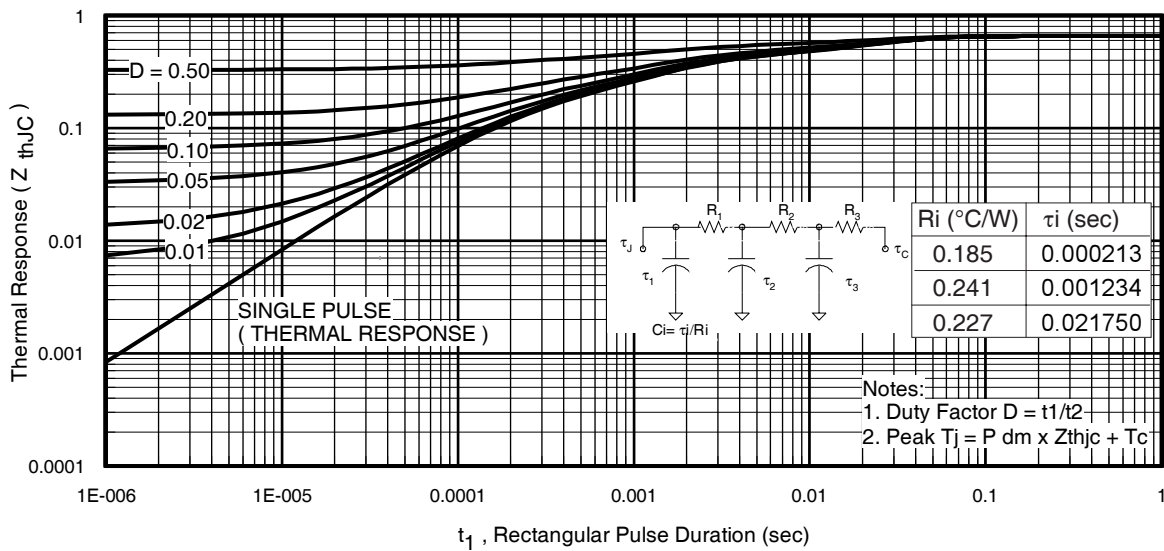
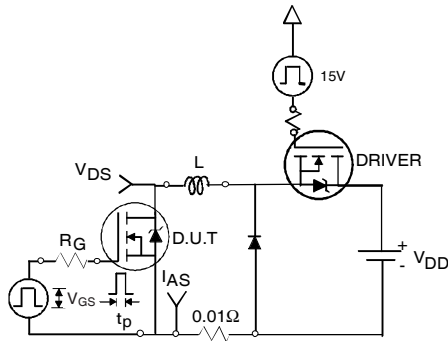

Fig 11. Maximum Effective Transient Thermal Impedance, Junction-to-Case
Fig 12a. Unclamped Inductive Test Circuit
- ① Repetitive rating; pulse width limited by max. junction temperature. (See fig. 11).
- ② Limited by T_{Jmax} , starting $T_J = 25^\circ\text{C}$, $L = 0.079mH$, $R_G = 25\Omega$, $I_{AS} = 75A$, $V_{GS} = 10V$. Part not recommended for use above this value.
- ③ Pulse width $\leq 1.0ms$; duty cycle $\leq 2\%$.
- ④ $C_{oss \text{ eff.}}$ is a fixed capacitance that gives the same charging time as C_{oss} while V_{DS} is rising from 0 to 80% V_{DSS} .
- ⑤ Limited by T_{Jmax} , see Fig.12a, 12b, 15, 16 for typical repetitive avalanche performance.
- ⑥ This value determined from sample failure population. 100% tested to this value in production.
- ⑦ This is only applied to TO-220AB package.
- ⑧ When mounted on 1" square PCB (FR-4 or G-10 Material). For recommended footprint and soldering techniques refer to application note #AN-994.
3. Equation below based on circuit and waveforms shown in Figures 12a, 12b.
$Z_{thJC}(D, t_{av})$ = Transient thermal resistance, see figure 11)